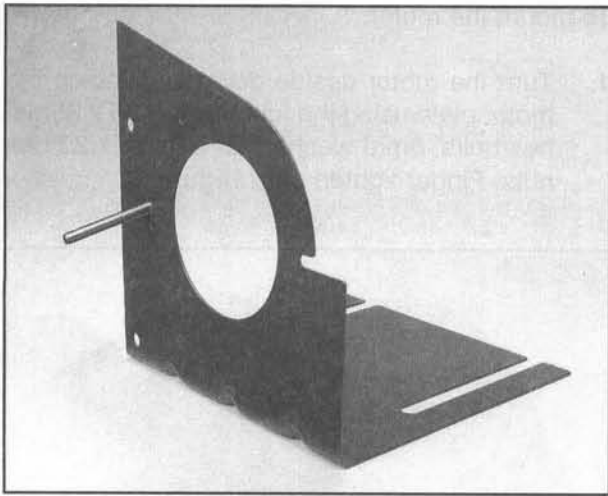

Figure 10.
2. Insert the 1/4"-20 x 2" hex bolt through the hole in the pulley guard bracket. **Figure 10.**